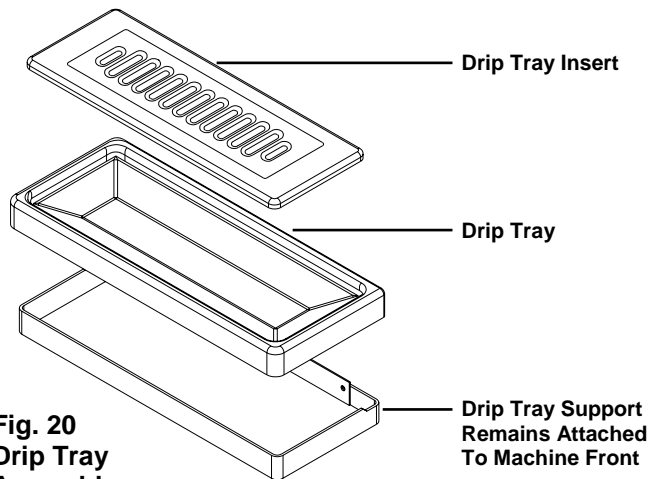

Fig. 20
3. Install the drip tray and drip tray insert (Fig. 20).